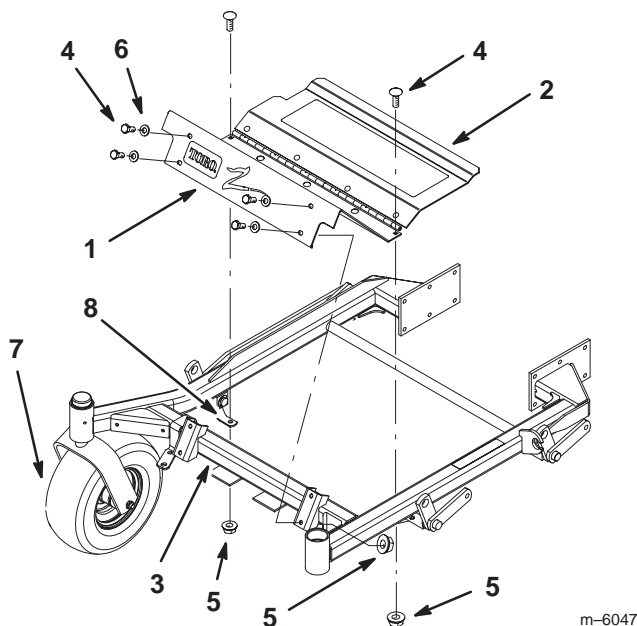

Figure 19
1. Remove the two outside bolts that connect the front floor pan to the carrier frame (Fig. 19). Save this hardware.
2. Remove the 4 bolts and washers that hold the front floor pan to the front frame (Fig. 19). Save this hardware.
6. Install the two outside bolts that connect the front floor pan to the carrier frame (Fig. 19).
7. Install **only the top 2 bolts** that hold the front floor pan to the front frame (Fig. 19). Use existing hardware.